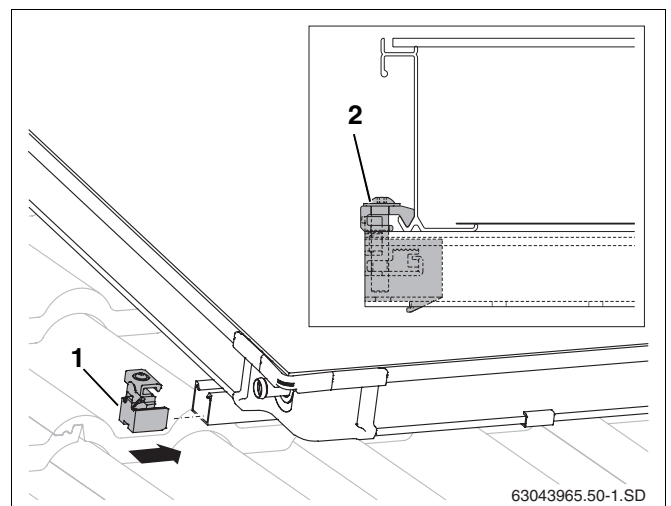

Fig. 49 One-sided collector clamp (left)
- ▶ Push single-sided collector clamp (Fig. 49, **Item 1**) into upper and lower profile rails.
- ▶ Push collector clamp up against the collector frame and screw in place using size 5 spanner (Fig. 49, **Item 2**).